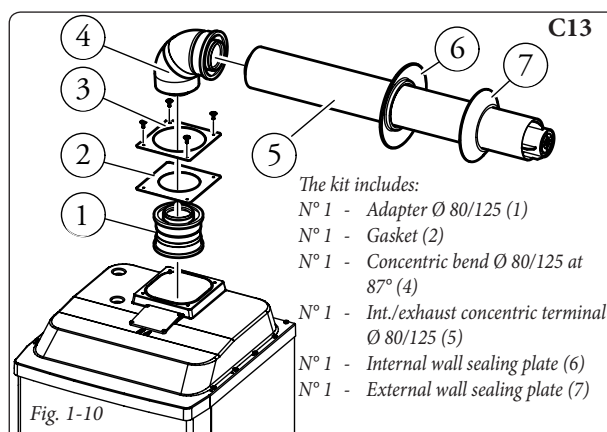

Fig. 1-10
Kit assembly (Fig. 1-10): Install the Ø 80/125 adapter (1) on the central hole of the boiler fully home. Slide the gasket (2) along the adapter (1) up to the relevant groove, Fix it to the lid using the previously disassembled sheet steel plate (3). Engage the bend (4) with the male side (smooth) until it is fully home on the adapter (1). Fit the Ø 80/125 (5) concentric terminal pipe with the male end (smooth) to the female end of the bend (4) (with lip seal) up to the stop; making sure that the internal (6) and external wall sealing plates (7) have been fitted, this will ensure sealing and joining of the elements making up the kit.